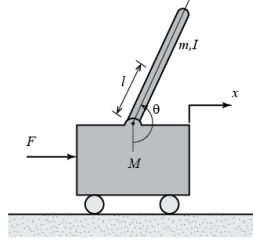

Figure 1: Image of the cart-pendulum system.
- The cart-pendulum system that is depicted in Figure 1.